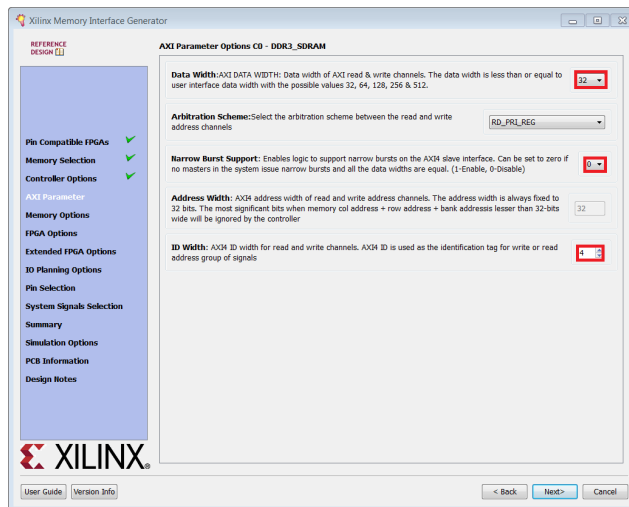

Figure 93: MIG Page: AXI Parameters Options
h. In the AXI Parameters Options page (Figure 93) do the following: